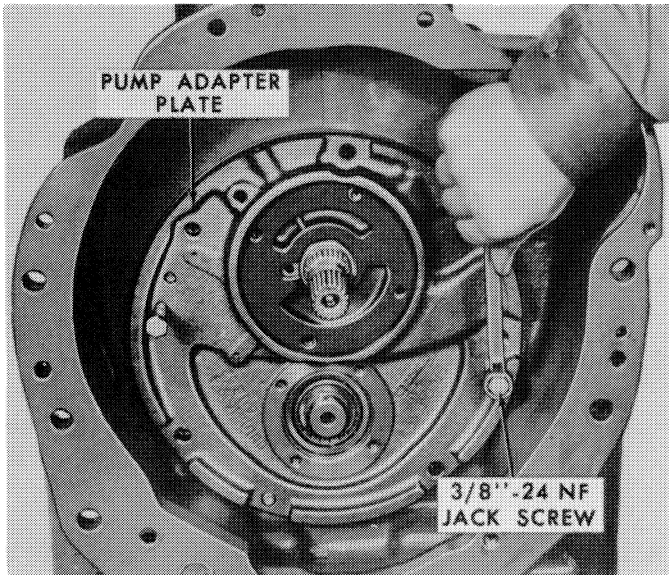

Figure 63
4. Remove the six bolts and one nut securing the adapter plate to the case. Remove the plate by using two 3/8" - 24 NF jack screws, as shown in Figure 63.